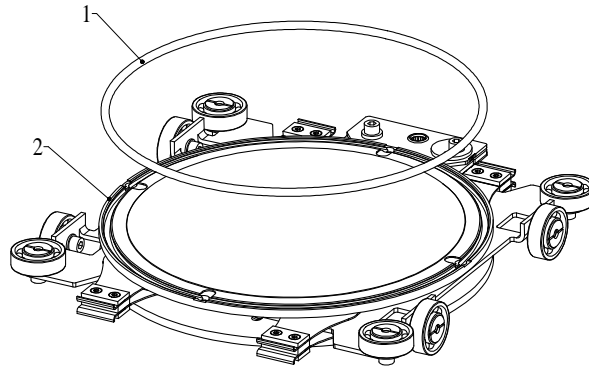

Figure 7-4
18. Remove gate seal (1) from groove; see «Figure 7-4», use O-ring removal tool.